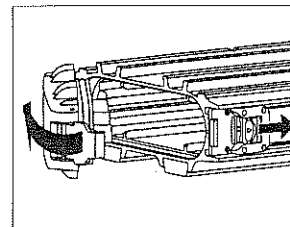

Figure 1
1. To open the front case, release the latch by sliding the latch lock in the direction indicated by the arrow in the Figure 1. Then lift the latch.